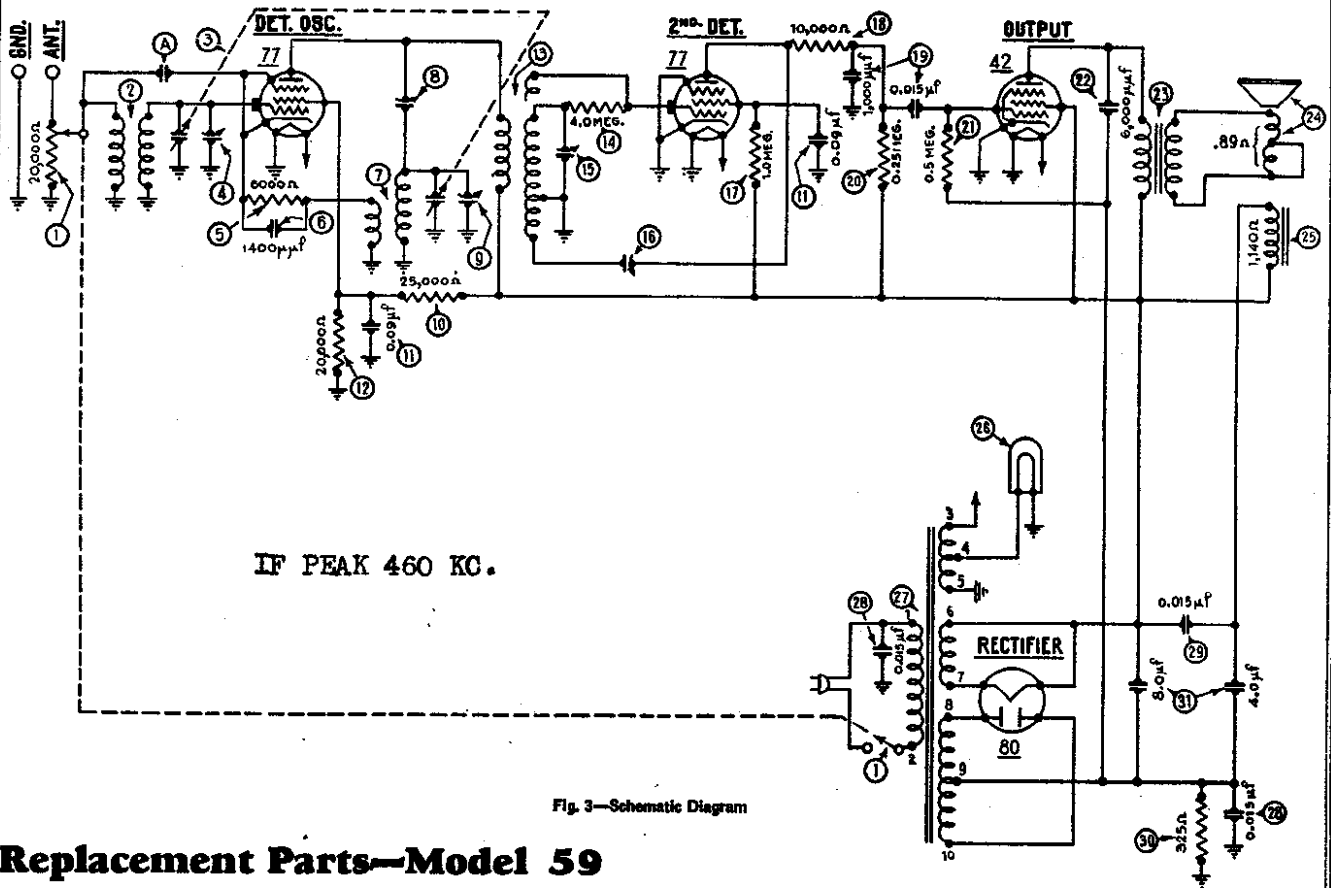

Fig. 3—Schematic Diagram
Referring to Fig. 3 on the same page, resistor No. 8 has been removed from the r-f. terminal panel and connected directly from the oscillator grid contact on the 1D7G socket to ground. This change improved the sensitivity in the center of the broadcast band.
The filament voltage of the 80 rectifier is shown as 6.3 volts in Fig. 3 on page 7-108 of *Rider's Volume VII*. This should be 5.0 volts.
Referring to Fig. 3, the I. F. primary and secondary condensers ③ and ④ should be adjusted first. Use an accurate signal generator such as the Philco Model 024. Remove the grid cap clip from the detector-oscillator tube and connect the antenna lead from the signal generator to the cap of this tube. Connect the ground lead from the signal generator to the ground terminal of the set. Connect the primary terminals of the output transformer to an output meter. Set the frequency switch of the signal generator at 460 K.C. (the I. F. of model 59), and turn the switches of the set and signal generator on. Turn volume control full on. Turn the dial pointer on the set to 600, and then adjust the I. F. compensating condensers ③ and ④ by means of a fibre wrench so that maximum reading is obtained in the output meter. If the needle goes off scale, adjust the attenuator on the signal generator so that a lower reading is obtained.